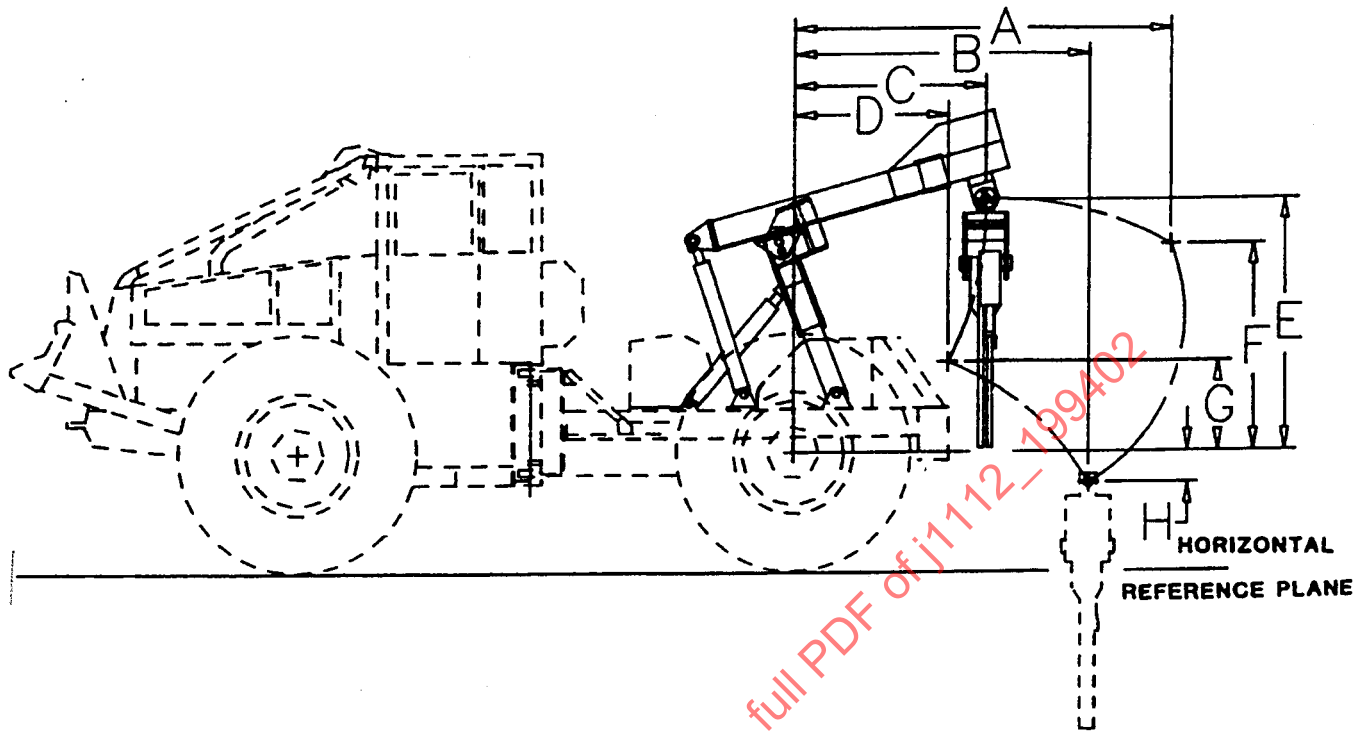

FIGURE 1—DUAL FUNCTION BOOM ASSEMBLY
3. **Definitions**—(See Figures 1, 2, 3, 4, 5, 6 and 7 for illustrations).